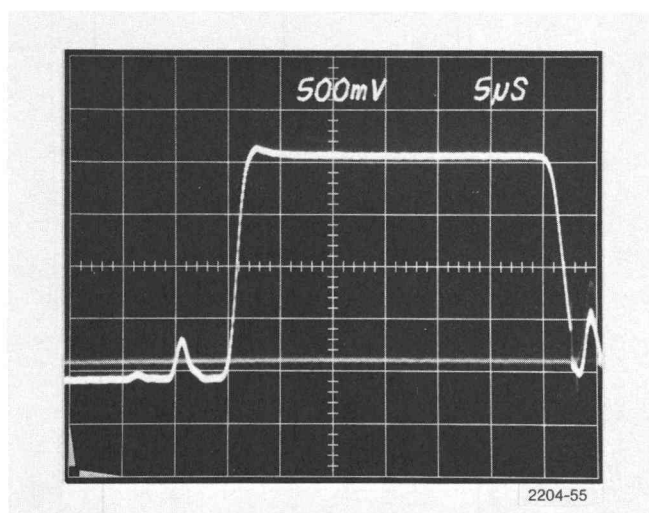

Fig. 6-8. Transient Response check for Bell Filter.
e. CHECK—for transient response similar to that in to Fig. 6-8.